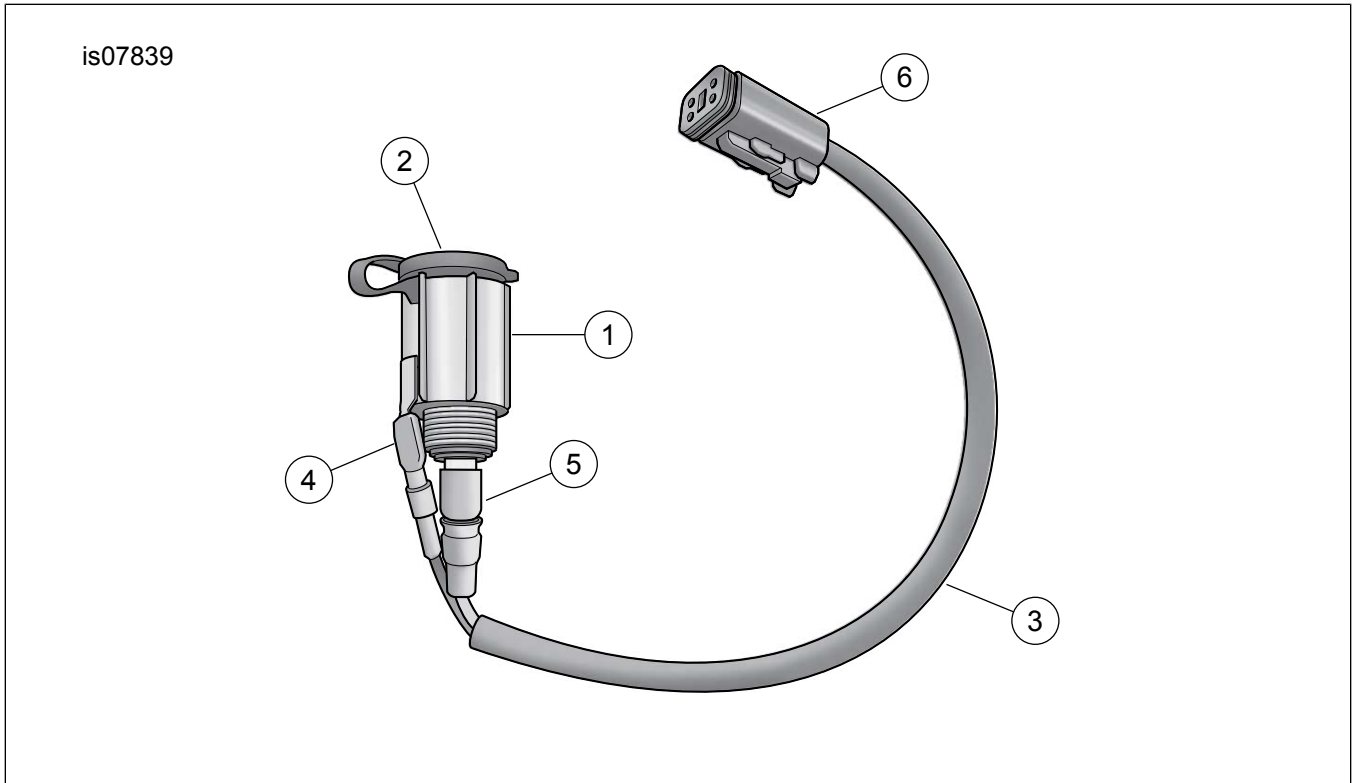

Figure 5. Supplementary 12 Volt Power Outlet
See Figure 5 and Table 1.
- d. See Figure 5. Connect DLC [91B] (6) to [91A].
- b. See Figure 5. Cut off connector (6). Insure to cut as close as possible to the connector.
- d. Cut and remove the caps from the (V/BE) and (BK) wires on the 69201599 harness.